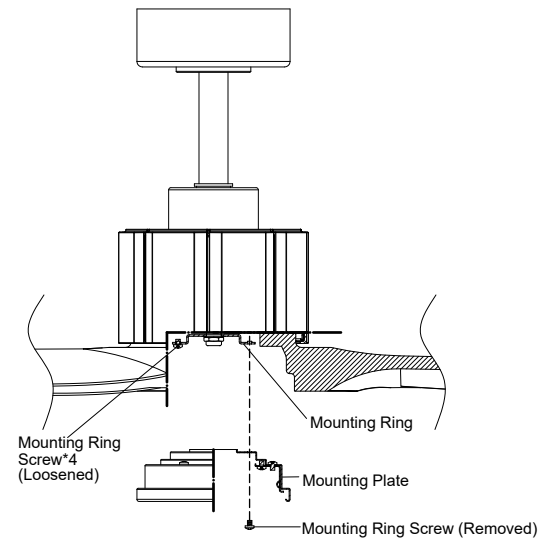

Fig. 14
Step 1. Loosen 3 of the mounting ring screws on the mounting ring attached to the motor shaft, and remove and save the fourth mounting ring screw. (Fig. 14)
Step 2. Place the key holes in the mounting plate over the 3 mounting ring screws that were loosened on the mounting ring, and turn mounting plate (clockwise) until it locks in place against the mounting ring screws at the narrow sections of the key holes. (Fig. 14)
Reinstall the fourth mounting ring screw that was previously removed, and tighten all 4 mounting ring screws to secure. (Fig. 14)